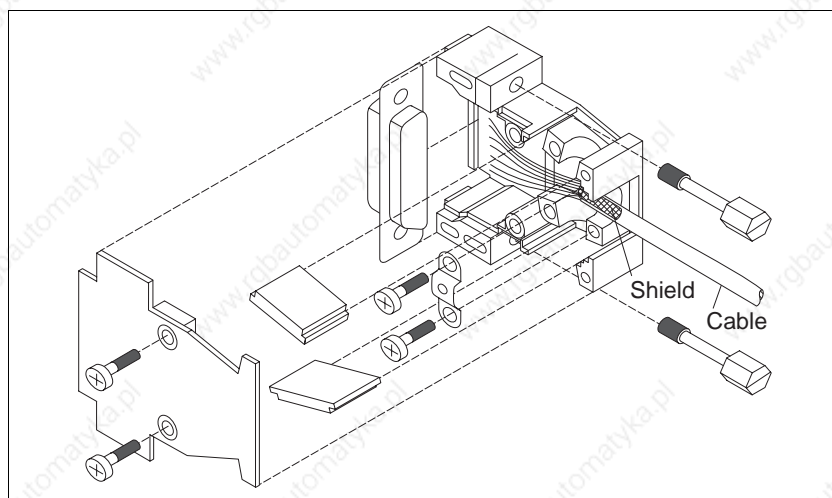

Fig. 2-20 Encoder connector assembly – device end
3. Insert two hexagon head bolts (fig. 2-20) into the connector shell.